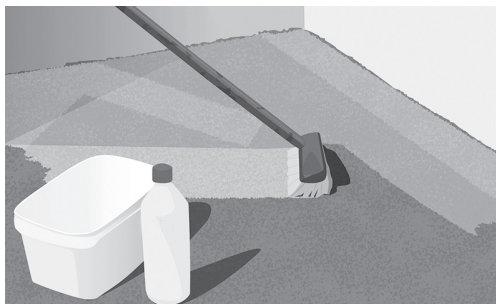

Fig. 7. Clean and prime the floor.
6. Prime your floor with suitable primer (see fig. 7).